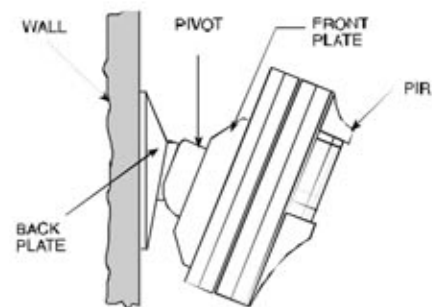

Figure 2. PIR and Adjustable Bracket Installed
2. Position the backplate (1) on the wall in the desired location. Using the backplate, mark the two screw holes to be drilled.
3. Drill the two holes where marked and securely fix the backplate to the wall with the furnished pan-head screws and anchors. Be careful to position the **ribs** (3) upward.
4. If required, center the backplate ball (11). With your fingers, insert the locking screw (6) into the backplate ball and shift the ball until the hole faces exactly forward. Remove the screw.
6. Punch out the screw hole knockout (5) in the PIR's back (7).
7. Hold the PIR's back with the top side facing up. Insert the front plate mounting standoffs (8) into the holes in the PIR back.
8. Mount the pivot (4) onto the front plate, taking care to position the large curve (10) downward.
9. Insert the locking screw (6) into the hole in the PIR's back (7), through the front plate (9) and pivot (4), and into the backplate ball (11). Turn the screw down **but do not yet secure it tightly**.
12. Reassemble the PIR and walk test in accordance with the installation instructions (see figure 2).